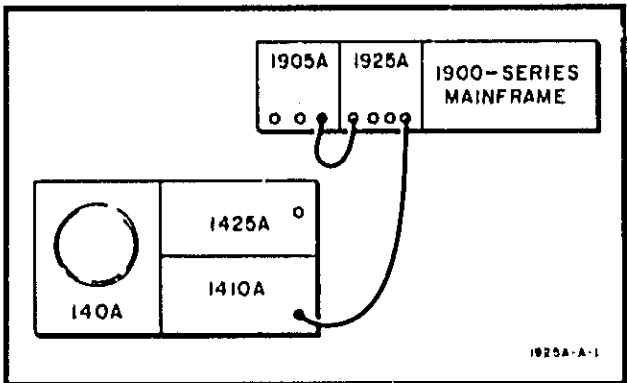

Figure 5-2. End Pulse Amplitude Test Setup
a. Connect the equipment and accessories as shown in Figure 5-2.